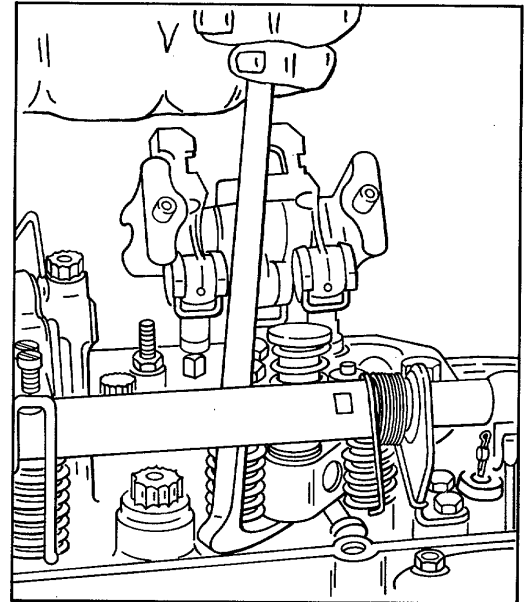

Figure 7. Removing Injector from Cylinder Head.
4. Remove the two rocker shaft bracket bolts and swing the rocker arms away from the injector and valves (Fig. 7).